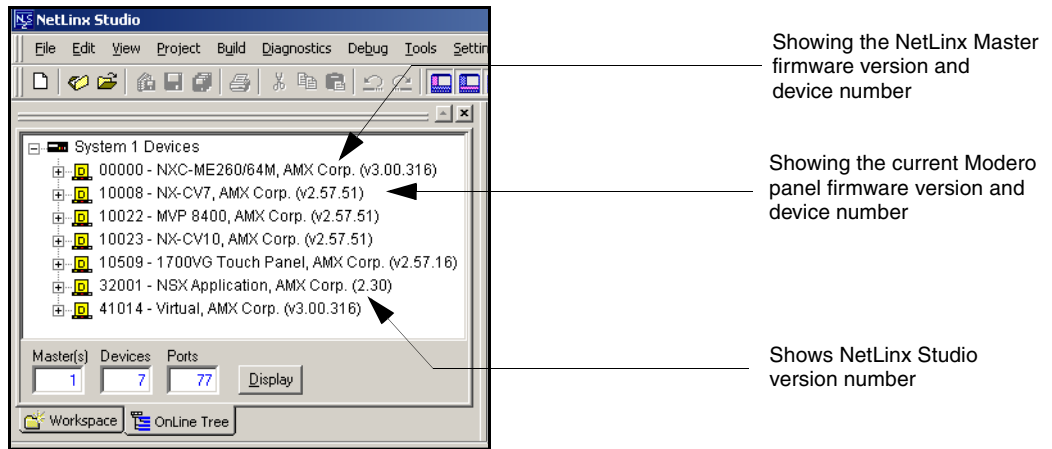

FIG. 51 NetLinx Workspace window (showing connected Modero panel)
3. After the Communication Verification dialog window verifies active communication between the PC and the Master, verify the panel appears in the **OnLine Tree** tab of the Workspace window (FIG. 51). *The default Modero panel value is 10001.*